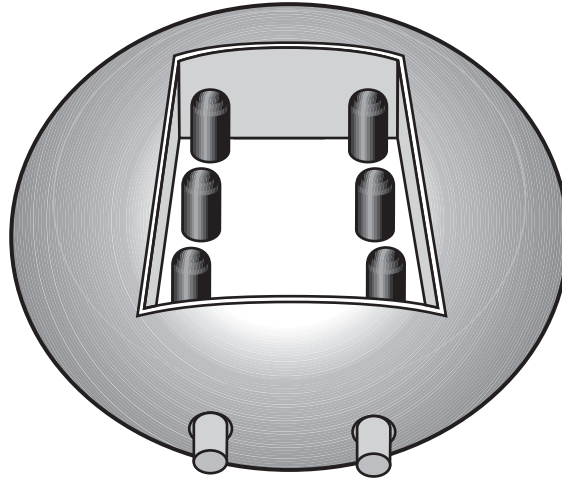

Figure Q1
1. The electronic device shown in Figure Q1 illuminates LEDs in order to represent a number between **one** and **six**.